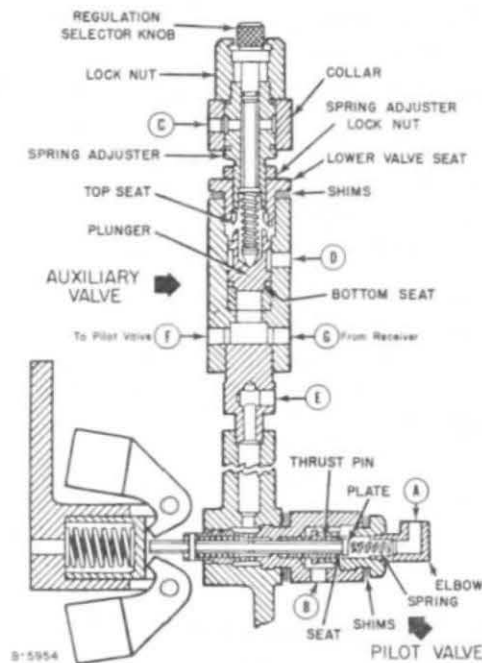

Figure 4-6. Auxiliary Valve Adjustment.
Auxiliary Valve Check — To check the operation of the auxiliary valve, refer to Figure 4-6 and proceed as follows: Remove the tube from the side of the pilot valve body (B). Plug this port and run the machine up just below the normal unload pressure. Stop the unit manually and check the tightness of the plunger against the bottom seat of the auxiliary valve by noting the amount of leakage through the open port (C). Next, with (B) remaining plugged, bleed down and then start the compressor and allow it to reach the unload pressure and run unloaded. Now the tightness of the top seat may be checked by noting if there